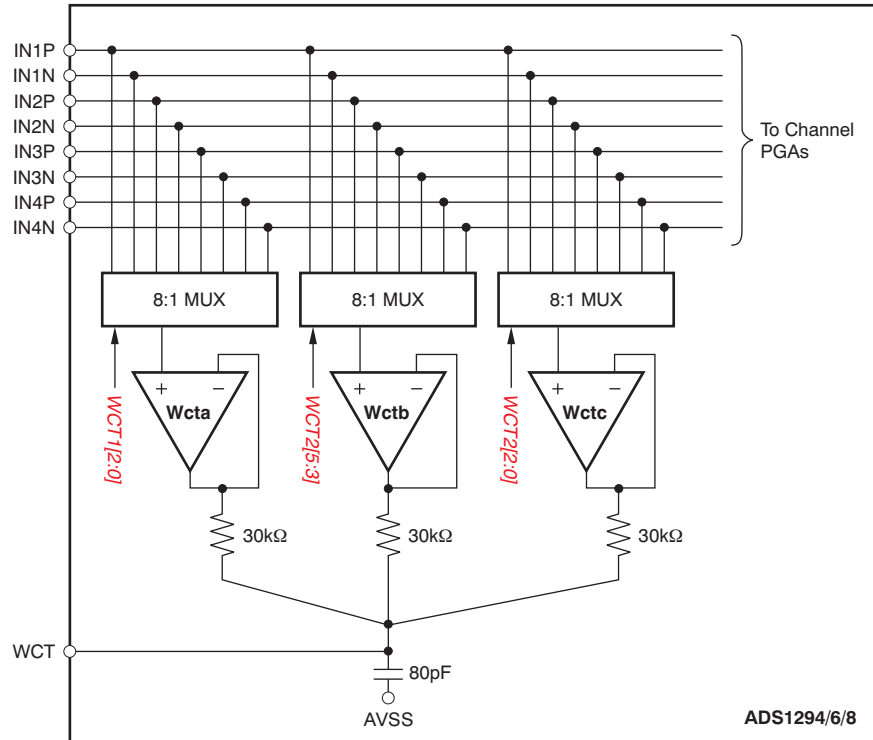

Figure 47. WCT Voltage
In the standard 12-lead ECG, WCT voltage is defined as the average of Right Arm (RA), Left Arm (LA), and Left Leg (LL) electrodes. This voltage is used as the reference voltage for the measurement of the chest leads. The ADS1294/6/8 has three integrated low-noise amplifiers that generate the WCT voltage. Figure 47 shows the block diagram of the implementation.